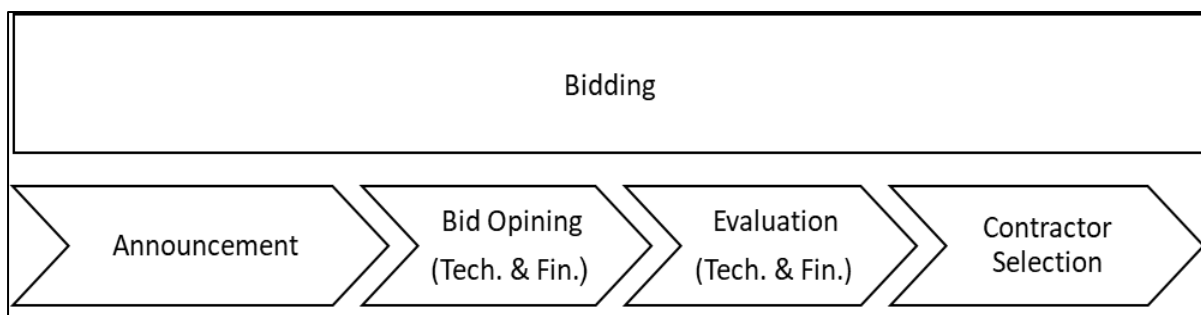

Figure 22.2: Procurement Bidding Execution Process
22.1.1: Bidding (Execution Process): Due to the sensitivity level of these process, the company has governed every single step of this stage of Procurement Execution Process Stages, in the Bidding (Execution Process) which are consist of four sub-processes as shown in figure 22.2.